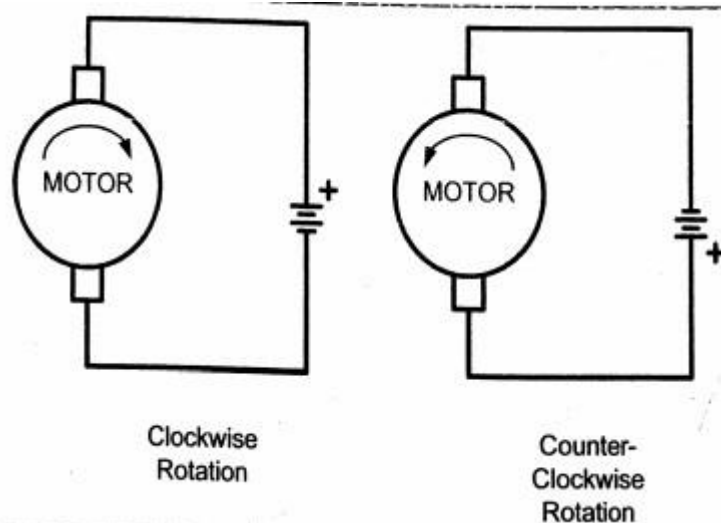

Figure 5.13 DC Motor Rotation (Permanent Magnet Field) **Bidirectional**
- The following figure 5.13 shows the DC motor rotation for clockwise (CW) and counterclockwise (CCW) rotations.